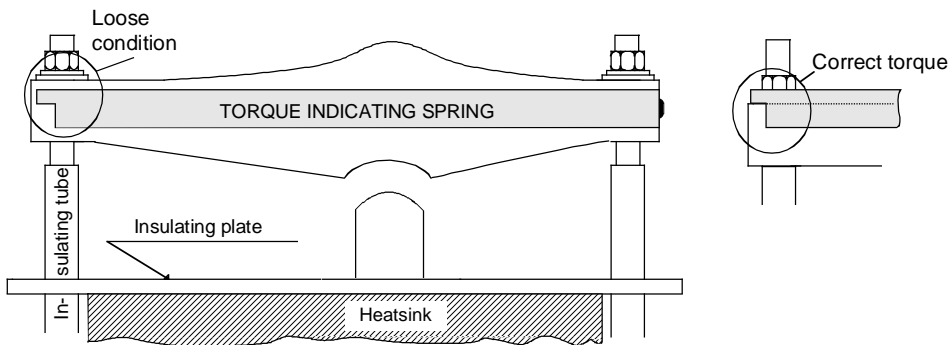

Figure 9 Aluminium spring with welded indicating spring
4. Loosen the mounting clamp (see figure 9) at the top of the thyristor stack.
7. Tighten each nut in turn, half a turn at a time with the help of a ring spanner until the indicating spring clicks into position “correct torque” (see figure 9). Do not tighten the screws any further.